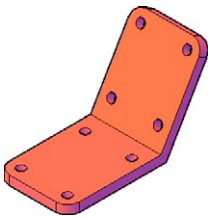

Fig. 17.6 First example – Changing UCS planes
First example – changing UCS planes (Fig. 17.6)
10. Place the 3D model in a **ViewCube/Isometric** view and set in the **Home/View/Conceptual** visual style (Fig. 17.6).